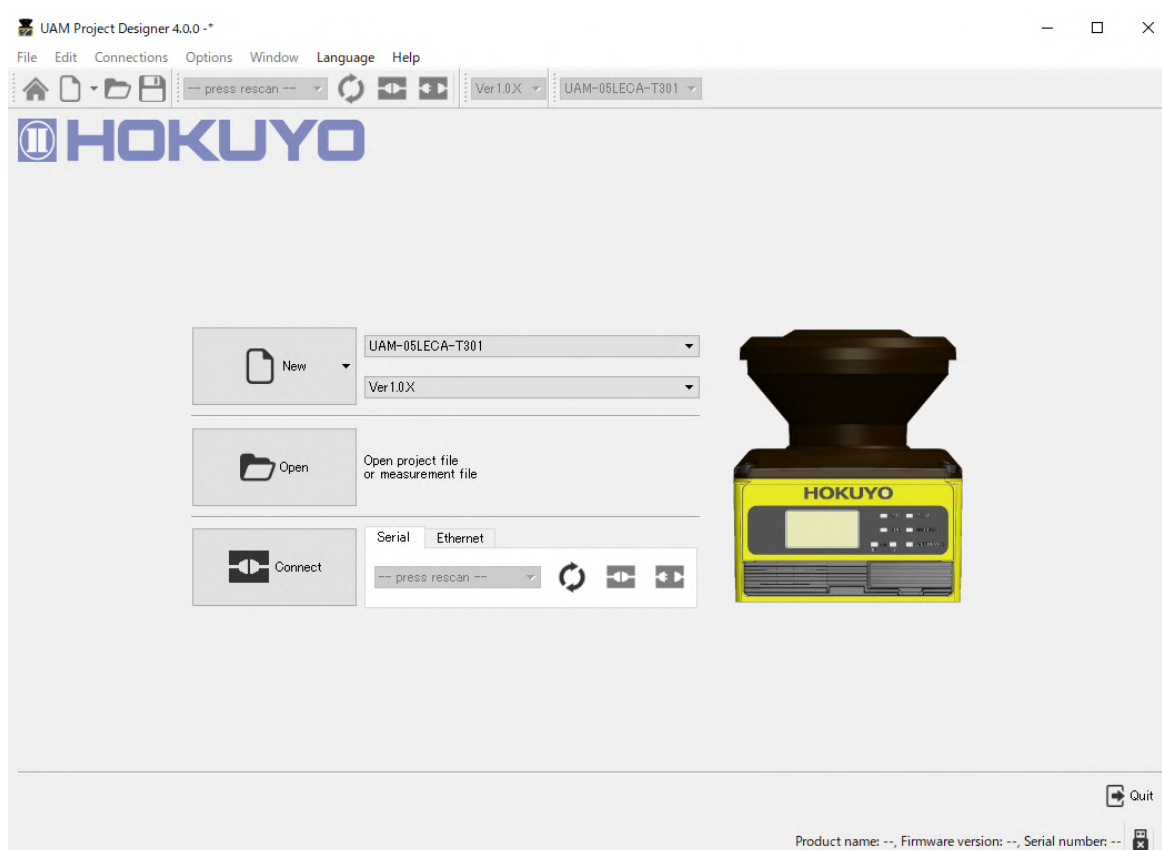

Figure 7-1 Main window
- Main window as shown in Figure 7-1 will be displayed when UAM project designer starts.